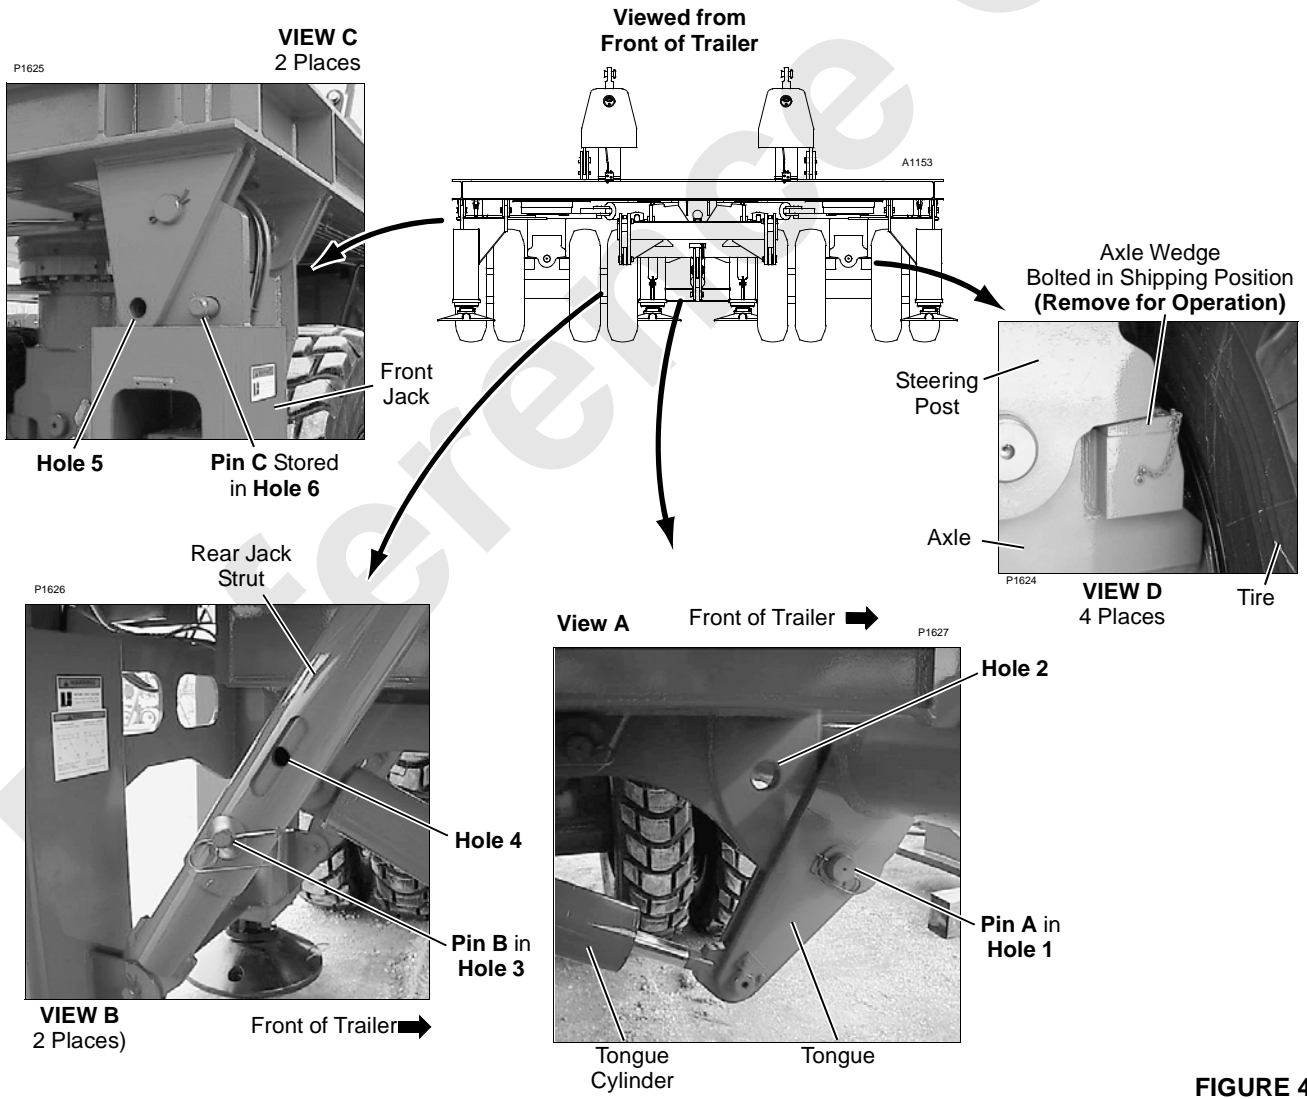

FIGURE 4-9
Trailer can tip or be structurally damaged if pins and axle wedges are not in correct position during installation and removal procedures. See Figure 4-9 for correct pin and wedge positions.
- Install pins in proper position prior to jacking or performing other procedures. See Figure 4-9 for correct pin and wedge positions.
Make sure trailer pins are in proper position for **Trailer NOT ATTACHED to Crane (Figure 4-9)**.
9. Move trailer pins to proper positions for **Trailer ATTACHED to Crane (Figure 4-9)**.
10. Once adapter is connected to crane, move tongue pin (A, Figure 4-9) to hole (1) and extend/retract tongue cylinder to level trailer with relation to crane.
12. Remove axle wedges from shipping position (Figure 4-9, View D).
Make sure pins are in proper position when operating jacks. See Figure 4-9 for pin positions.